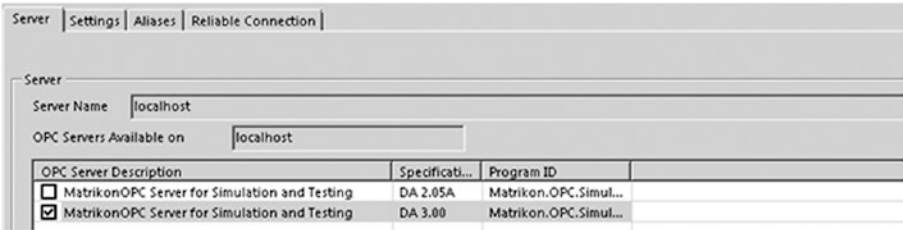

Figure 7-133. OPC server selection in PCo
10. PCo now will automatically determine the OPC DA server available in that particular host. See Figure 7-133.